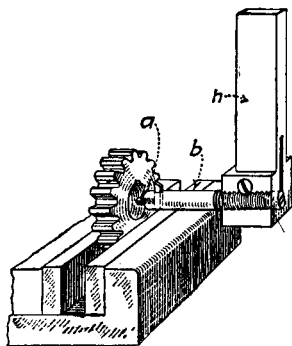

Fig. 2-58. Planing a keyway in a gear (see also Fig. 2-59).
*Shaping Keyways.* It is often convenient to use a shaper to cut keyways in the hubs of pulleys, gears, etc. A forged tool for this purpose is not economical and is not much used. Figure 2-58 shows a homemade keyway tool-holder that works well. The tool point is held in the bar *b* by a setscrew *a* at the end. The thread on the bar screwing into the holder *h* helps materially in holding.
Notice that the diameter of the bar in Fig. 2-58 is smaller than the diameter of the hole. This is because the tool bit projects and both the bar and projecting bit must go through the hole.
It frequently happens, when work is held in the shaper vise as shown in Fig. 2-58, that the ram will not go back far enough. In such a case do one of three things: (1) Put one or more parallels, as high as the vise jaw, back of the work and clamp the work between the parallels and the movable vise jaw. (2) Clamp the work in a plain